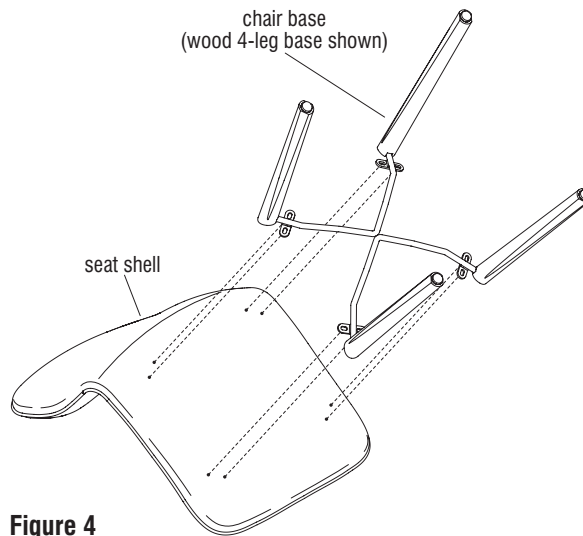

Figure 4
1. Align the mounting holes of the replacement chair base with the mounting holes on the underside of the seat shell. Secure together using the screws removed from the previous chair base (Figures 4 & 5).